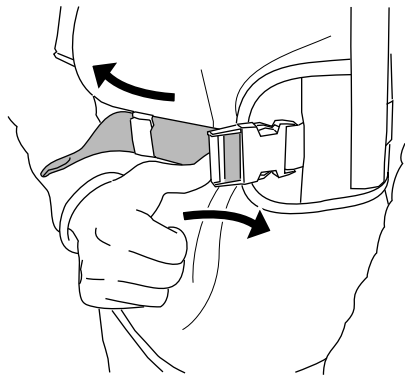

Figure 14
- If the hip belt is too tight, push sideways on the adjuster to lengthen the straps (Figure 14).